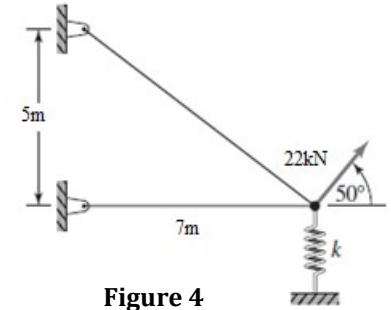

Figure 4
6. Figure 4 shows a two-member plane truss supported by a linearly elastic spring. The truss members are of a solid circular cross section having $d = 20$ mm and $E = 80$ GPa. The linear spring has stiffness constant 70 N/mm. Now determine global displacement of the unconstrained node. Also calculate reaction forces at constrained nodes and stresses in bars.